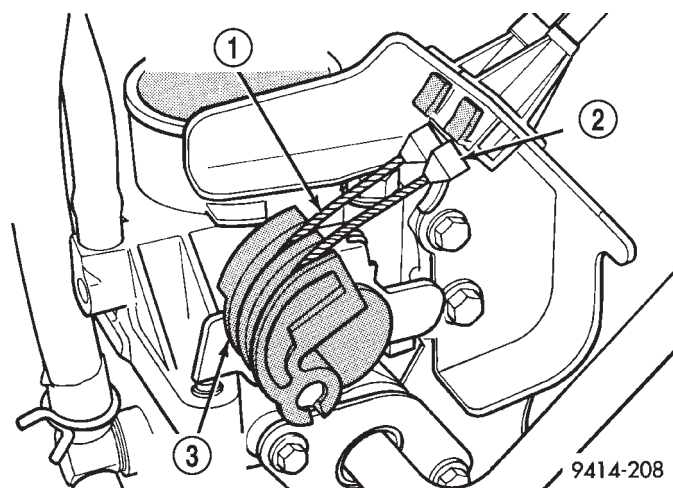
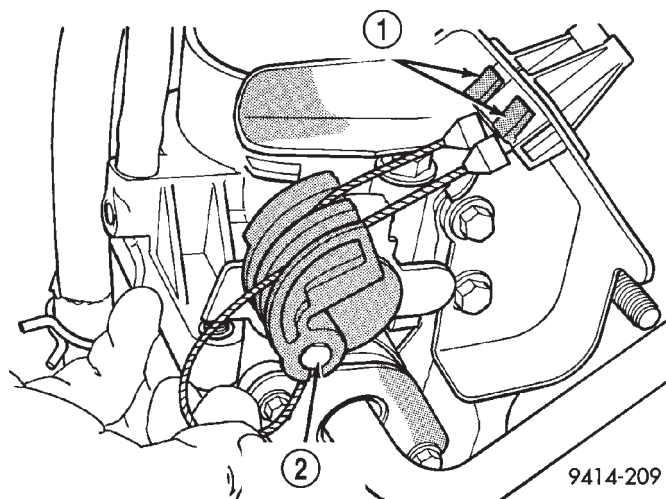

Fig. 33 Throttle Cable Attachment to Throttle Body
Fig. 34 Disconnecting Throttle Cable
(1) Working from the engine compartment, remove the throttle cable from the throttle body lever (Fig. 33) and (Fig. 34).
(2) Compress the retaining tabs on the cable and slide cable out of bracket (Fig. 34).
(3) From inside vehicle, reach behind the top of the pedal shaft and push the retainer toward rear of vehicle. It may be necessary to squeeze retainer ears together on dash side of pedal shaft.
(4) Lift cable up through slot in top of pedal shaft.
(5) Remove throttle cable clip attached at grommet in front of dash panel.
(6) From the engine compartment, pull the throttle cable and grommet out of the dash panel.
(6) From the engine compartment, rotate the throttle lever forward to the wide open position and install cable clasp (Fig. 34).